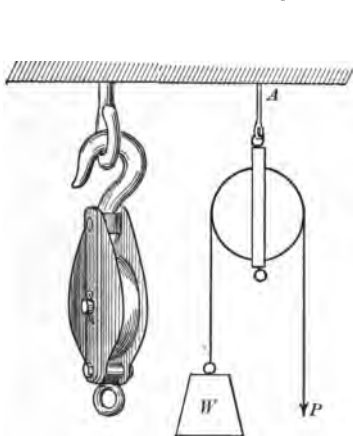

FIG. 24. — Fixed pulley.
**28. The pulley.** The **fixed pulley**, shown in figure 24, consists of a wheel with a grooved rim, called a **sheave**, free to rotate on an axle which is supported in a **fixed block**. A flexible rope or cable passes over the wheel. It is evident